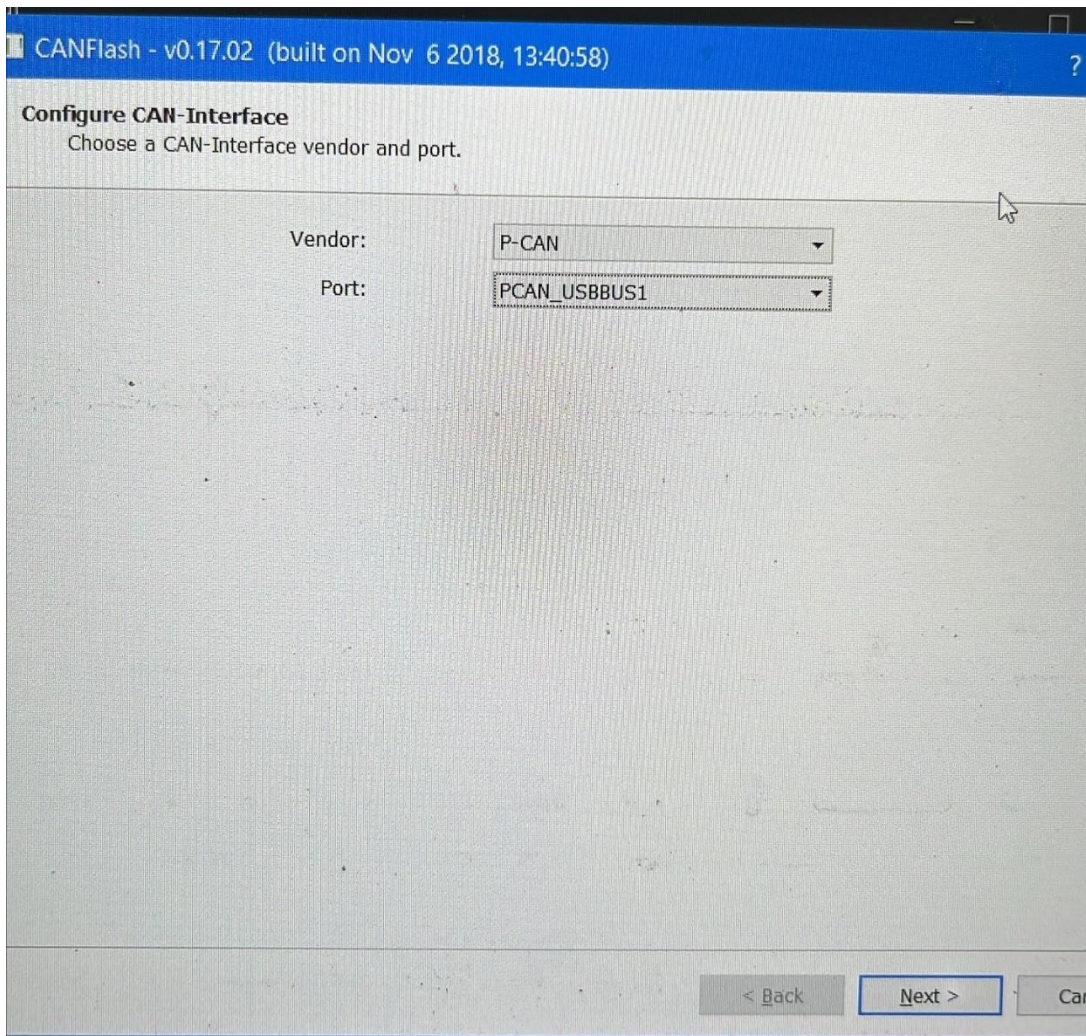

Figure 3: CANFlash PCAN setting
19. Once CANFlash is open, select **P-CAN** under the Vendor drop-down menu. Select **PCAN\_USBBUS1** under the Port drop-down menu (see figure 3 below). It’s important to ensure the physical connection to the laptop matches the same port as dictated by the CANFlash setup. Click **Next** when complete.